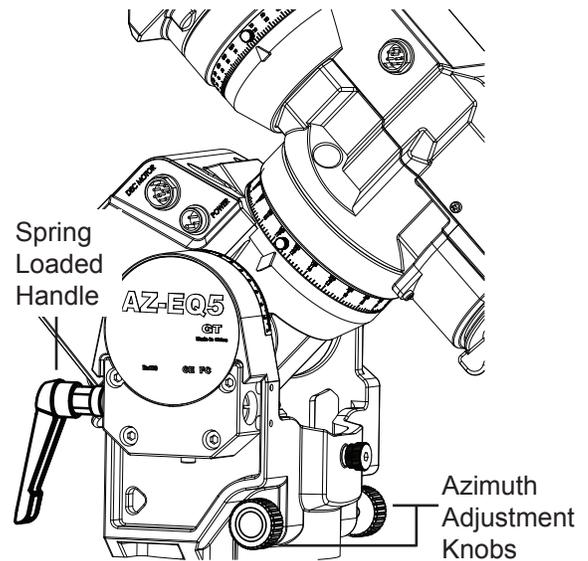

Fig. 3.2b
1. Put a distant fixed point object at the center of the reticle in the polar scope's FOV with the azimuth adjustment knobs and the spring loaded handle (Fig. 3.2b).
1. Put a distant fixed point object to the center of the reticle in the polar scope's FOV with the azimuth adjustment knobs and the spring loaded handle (Fig. 3.2b).